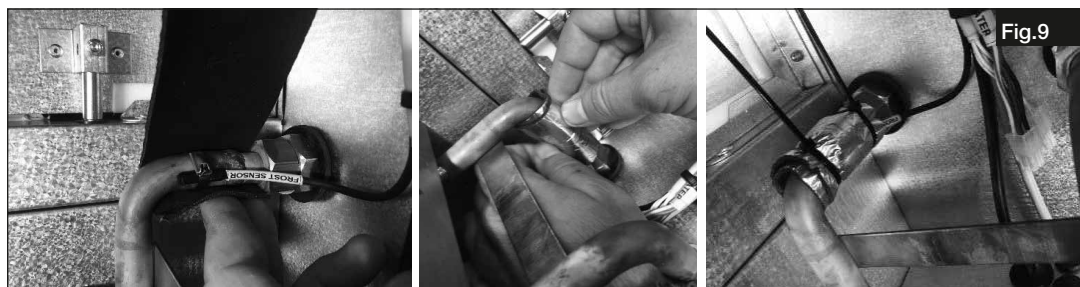

Fig.9
8. Cut the insulating material to size and check whether the insulating material covers the sensor. Attach the insulating material, as shown, around the sensor on the outlet pipe (see Fig.9). Use the two provided cable ties for this purpose. Cut off the excess ends of the cable ties.